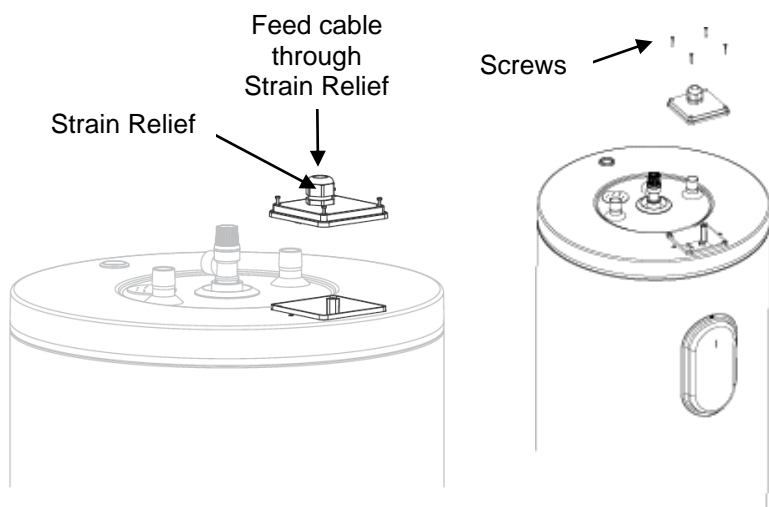

Figure 3: Connection Box
- i. Remove the lid of the junction box by unscrewing the 4 screws as shown in Figure 3.
- ii. Loosen strain relief and place electrical cable through the strain as shown in Figure 3.